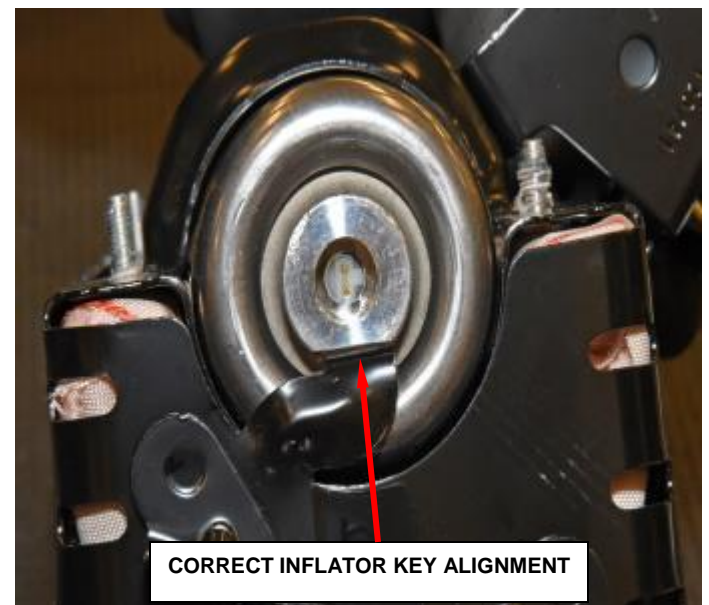

Figure 111 – Check for Inflator Key Alignment
- q. Ensure that the inflator's key is still lined up with the housing's key (Figure 111).